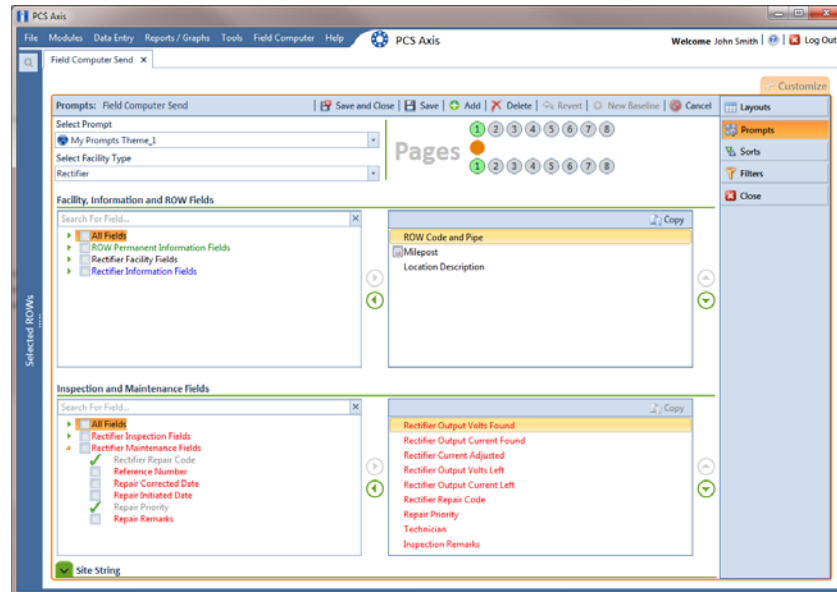

Figure 13-30. Prompts
- 8 Verify the name of the new theme displays in the **Select Prompt** field. If not, click the down arrow and select the theme in the selection list (Figure 13-30, page 549).